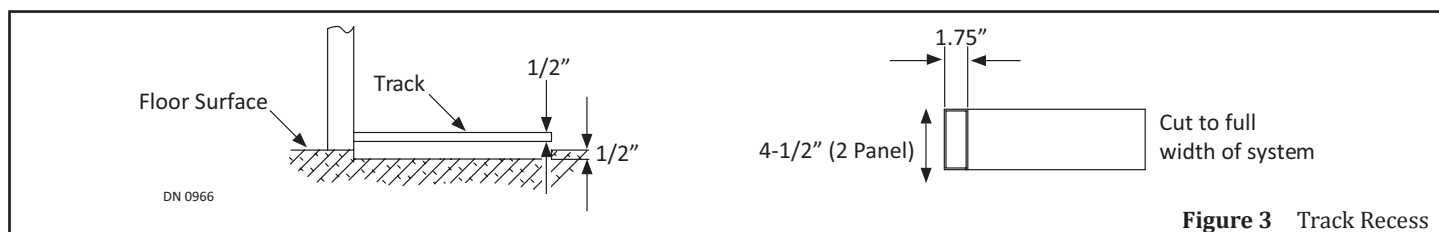

**Figure 2** Slide Door Openings
3. Install Filler Inserts within areas that has a door opening. Please see Figure 2.